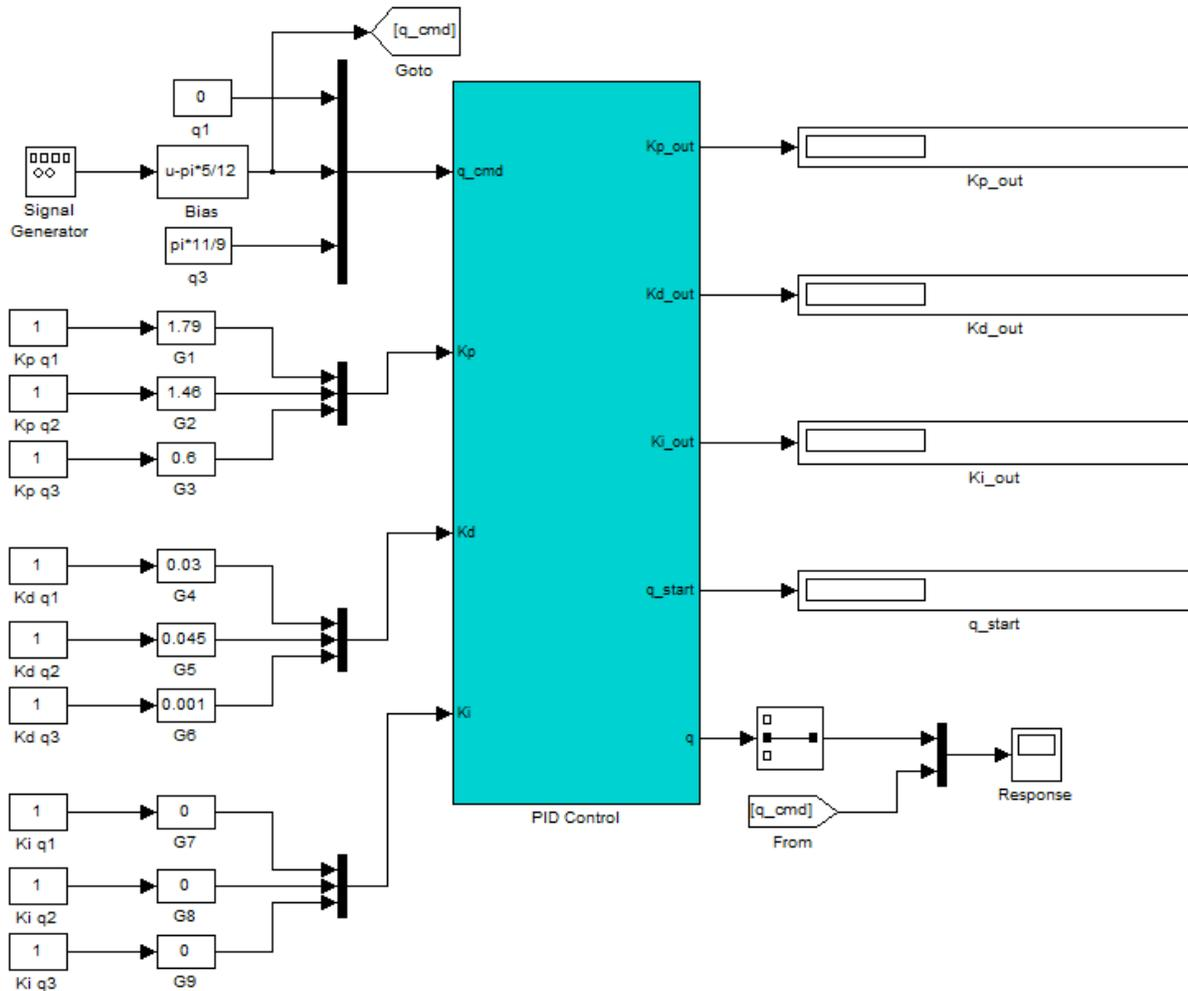

Figure 5.8: Joint 3 position controller
- Use a **Bias** block with a bias of π rad to shift the square wave up by π rad. Your model should resemble Figure 5.8.